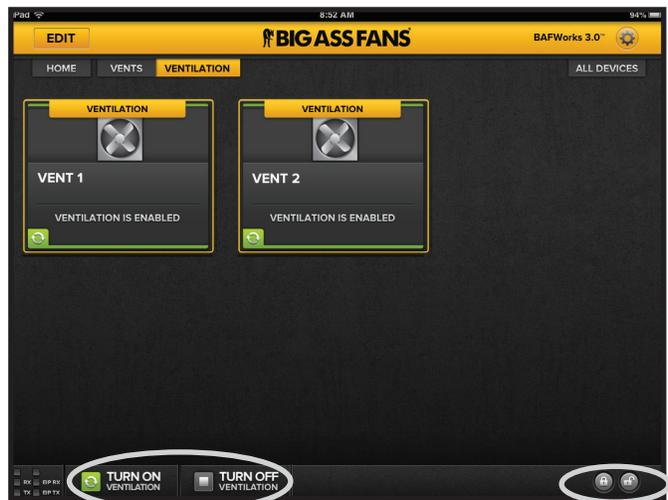

Figure 16—Starting, stopping, and locking/unlocking vent groups
3. At the bottom of the screen, touch **Open Louvers, Close Louvers, Turn On Ventilation, or Turn Off Ventilation** (Figure 16).
*Note: You can also lock or unlock the operational status of the louvers/vents in the group by touching the lock/unlock icons in the bottom right corner of the screen (Figure 16). This setting requires administrator password entry.*